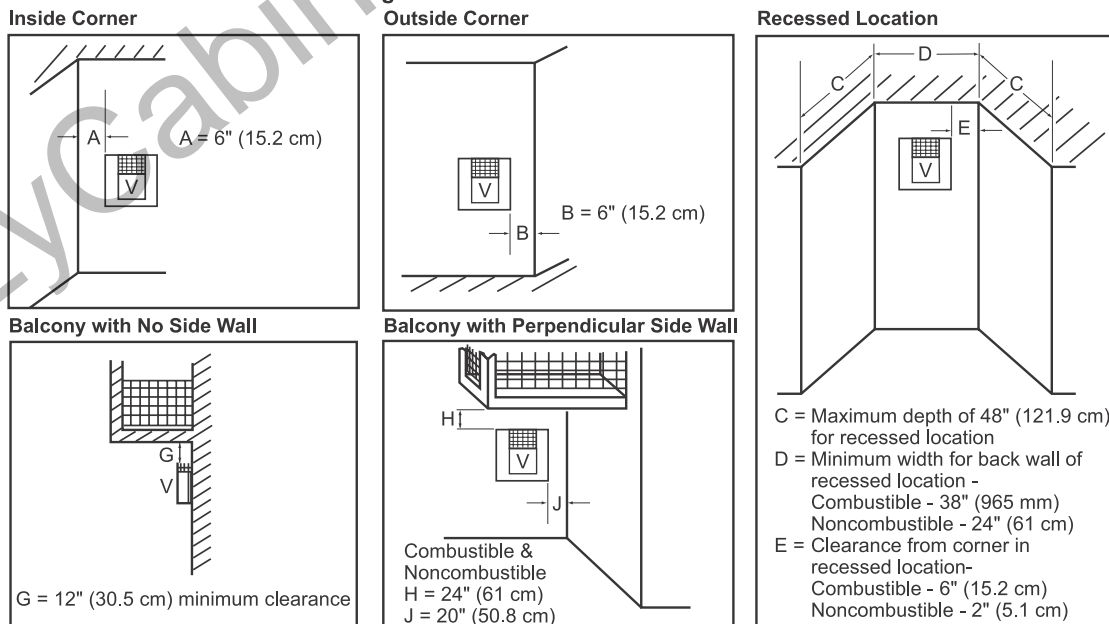

Figure 7 - Minimum Clearances for Termination Cap
- When locating termination cap, it is important to observe the minimum clearances shown in Figure 7, page 10.